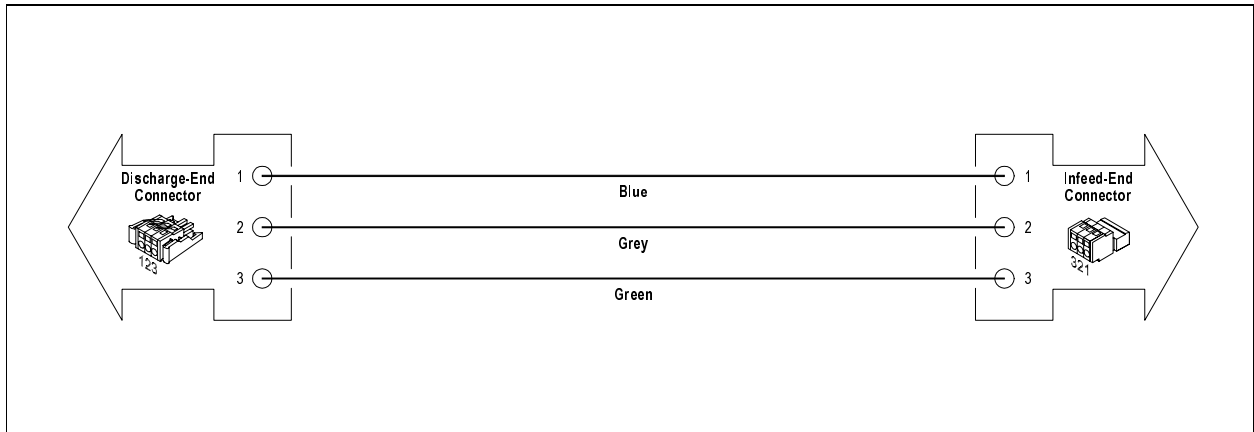

Figure H.7 – Wiring Connectors on a Pass-Through Power Harness
- Pass-Through Power Harness (see Figure H.7),